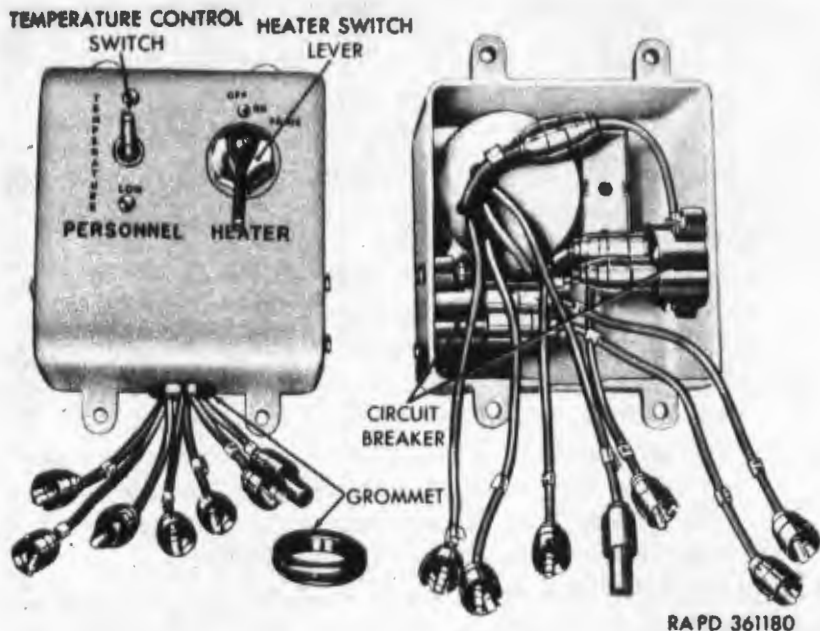

Figure 253. Personnel heater control box, front and rear view.
a. Removal. Disconnect seven cable connectors from the main wiring harness to the personnel heater control box (fig. 253).
b. Installation. Make sure that the cable grommet (fig. 253) is in position to protect the cables. Position control box (fig. 253) on hull left wall and secure with four $\frac{1}{4}$ x $\frac{7}{8}$ hex-head bolts and $\frac{1}{4}$ -inch lockwashers. Connect seven cable connectors (fig. 253) to the main wiring harness and make sure the circuit numbers match.
c. Heater Switch (fig. 253).
- (2) *Installation.* Position the heater switch in the personnel heater control box and secure with mounting washer and nut. Position the switch lever with washer on the switch shaft and secure with one No. 8 x $\frac{3}{8}$ fillister-head screw. Connect cable connector, circuit No. 404, to corresponding circuit on temperature control switch. Install personnel heater control box (*b* above).
d. Temperature Control Switch (fig. 253).
- (1) *Removal.* Remove personnel heater control box (*a* above). Disconnect two cable connectors from the temperature control circuit breaker to provide access to the switch. Disconnect one cable connector, circuit No. 404, from the switch. Remove two panhead screws and lockwashers which secure the temperature control switch in the control box and remove the switch with attached cables and connectors.
- (2) *Installation.* Position the temperature control switch with cables and connectors in the personnel heater control box and secure with two No. 8 x $\frac{3}{8}$ panhead screws and No. 8 lockwashers. Connect cable, circuit No. 404, from heater switch to corresponding temperature control switch cable. Connect two cable connectors, circuit Nos. 400 and 411, to the temperature control circuit breaker. Install personnel heater control box (*b* above).
e. Circuit Breaker (fig. 253). The circuit breakers for the personnel heater and temperature control circuits require identical operations for removal and installation.
- (1) *Removal.* Remove the personnel heater control box (*a* above). Disconnect two cable connectors from the circuit breaker to be removed. Remove two panhead screws, hex nuts and lockwashers which secure the circuit breaker in the control box and remove the circuit breaker.
- (2) *Installation.* Position the circuit breaker in the personnel heater control box and secure with two No. 8 x $\frac{7}{8}$ panhead screws, No. 8 lockwashers, and No. 8 hex-nuts. Install personnel heater control box (*b* above).